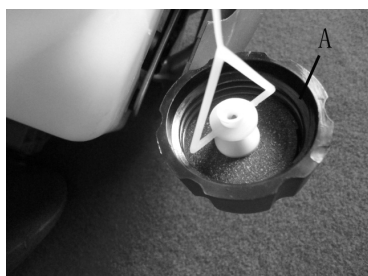

Fig.16
**NOTE:** Keep vent (A) on fuel cap clean of debris (Fig.16).